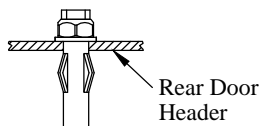

Figure 12: Assembled Plusnut.
- 9. Insert** the Plusnut into the 5/16" drilled hole (Figure 12).